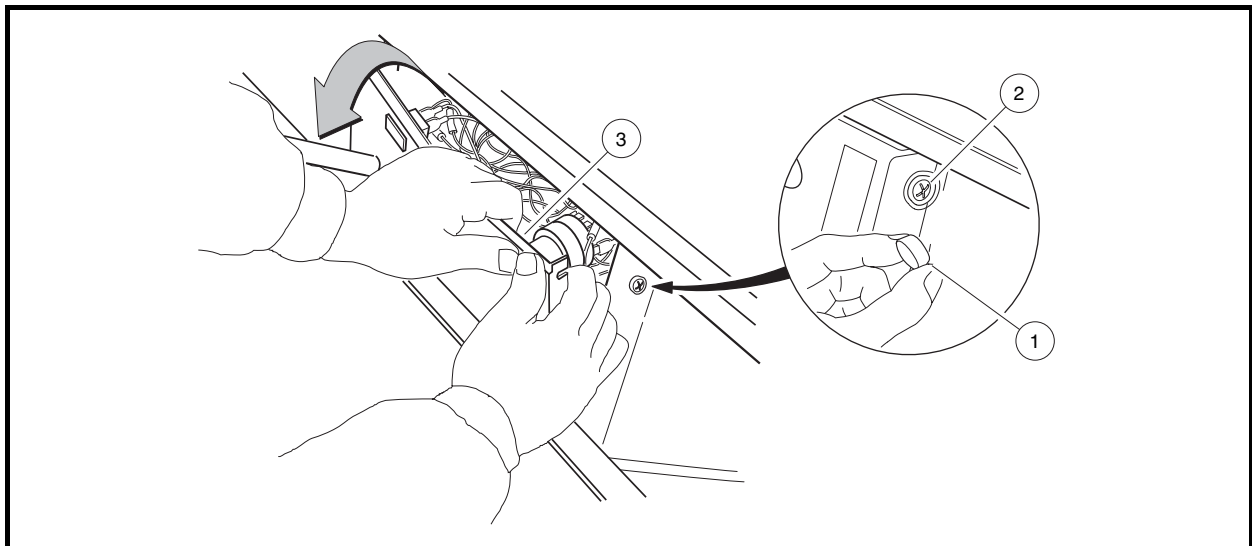

Figure 13-1 Dash Removal
2. Remove the center dash panel (**Figure 13-1, Page 13-1**).
- 2.1. Remove the plastic cap (1) covering the mounting screw (2) on each side of the center dash panel (3) (**Figure 13-1, Page 13-1**).
**NOTE:** Bending the top right corner of the center dash inward during removal will prevent the terminals (7) on the back of the key switch from touching the metal frame around the dash. **(Figure 13-1, Page 13-1)**
**NOTE:** Take care to prevent key switch terminals and wires from touching the metal frame around the dash. **(Figure 13-1, Page 13-1).**
- 3.1. Remove the center dash panel (**Figure 13-1, Page 13-1**).
- 3.1.1. Remove the plastic cap (1) covering the mounting screw (2) on each side of the center dash panel (3) (**Figure 13-1, Page 13-1**).
**NOTE:** Take care to prevent key switch terminals and wires from touching the metal frame around the dash. (**Figure 13-1, Page 13-1**).
5. Press the locking tabs (11) on each end of switch and push switch out of case.
- 4.1. Install center dash by reversing removal procedure. Make sure key switch terminals do not touch frame and that the center dash panel is properly seated and snapped into place. (**Figure 13-1, Page 13-1**).